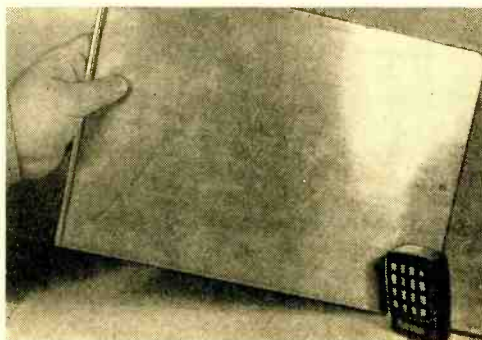

Fig. 7. Rattling sheet metal for "thunder".
**Thunder:** The distant rumbling roar of thunder may be simulated by shaking or rattling a large cookie sheet or other piece of sheet metal close to the microphone, as shown in Fig. 7. The larger the sheet of metal used, the more realistic is the sound produced.